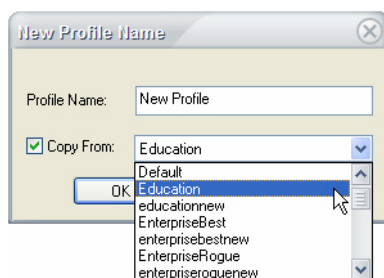

Figure 12-6: Selecting a pre-configured policy profile
- 3) Enter a name for the new policy profile, check the **Copy From** check box, click the down arrow to select a pre-configure policy profile from the drop-down list. See Figure 12-6.